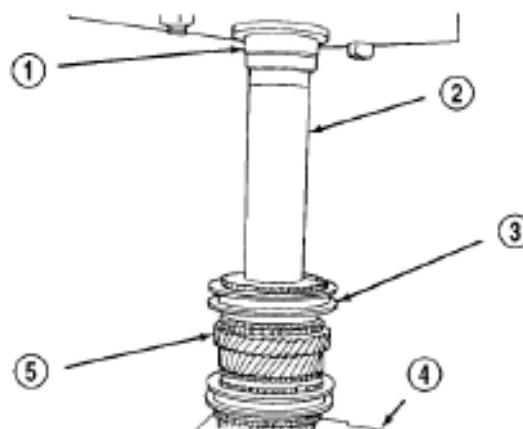

Figure 3-140 Assembly of the fifth transmission gear
(11) Assemble the fifth transmission gear and synchronizer with dedicated tool C-3717 (Figure 3-140). The fifth gear synchronizer cover is printed with a letter “S” indicating that it shall be placed with S side upward.